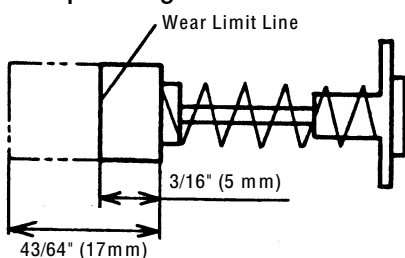
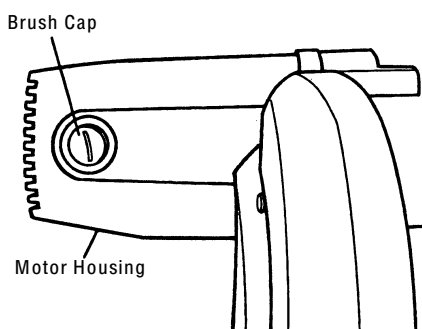

Fig. 37
Fig. 38
2. Inspecting the carbon brushes (Fig. 37 and Fig. 38)
When the carbon on either brush is worn to 3/16" (5 mm) in length or if either spring or shunt wire is burned or damaged in any way, replace both carbon brushes (see Fig. 37). If the carbon brushes are found serviceable after removing, reinstall them in the same position as before removed.
The carbon brushes can easily be removed after removal of the brush caps (see Fig. 38) with a slotted (minus) screwdriver.